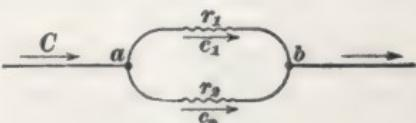

FIG. 51.
**69.** Fig. 51 represents a derived circuit of two branches.
When the resistances of the two branches are unequal, the current will divide between them in inverse proportion to their respective resistances. In Fig. 51 the resistances of the two branches are  $r_1$  and  $r_2$ . Therefore,  $c_1 : c_2 :: r_2 : r_1$ .
In Fig. 51, the conductivities of the branches are  $\frac{1}{r_1}$  and  $\frac{1}{r_2}$ . Hence, their joint conductivity when connected in parallel is  $\frac{1}{r_1} + \frac{1}{r_2} = \frac{r_2 + r_1}{r_1 r_2}$ ; now, since the resistance of any conductor is the reciprocal of its conductivity, then the *joint resistance* of the two branches in parallel is the reciprocal of their joint conductivity; or,  $1 \div \frac{r_2 + r_1}{r_1 r_2} = \frac{r_1 r_2}{r_1 + r_2}$ . Hence, joint resistance
**EXAMPLE.**—In Fig. 51, given  $r_1 = 2$  ohms and  $r_2 = 3$  ohms; find their joint resistance in parallel.